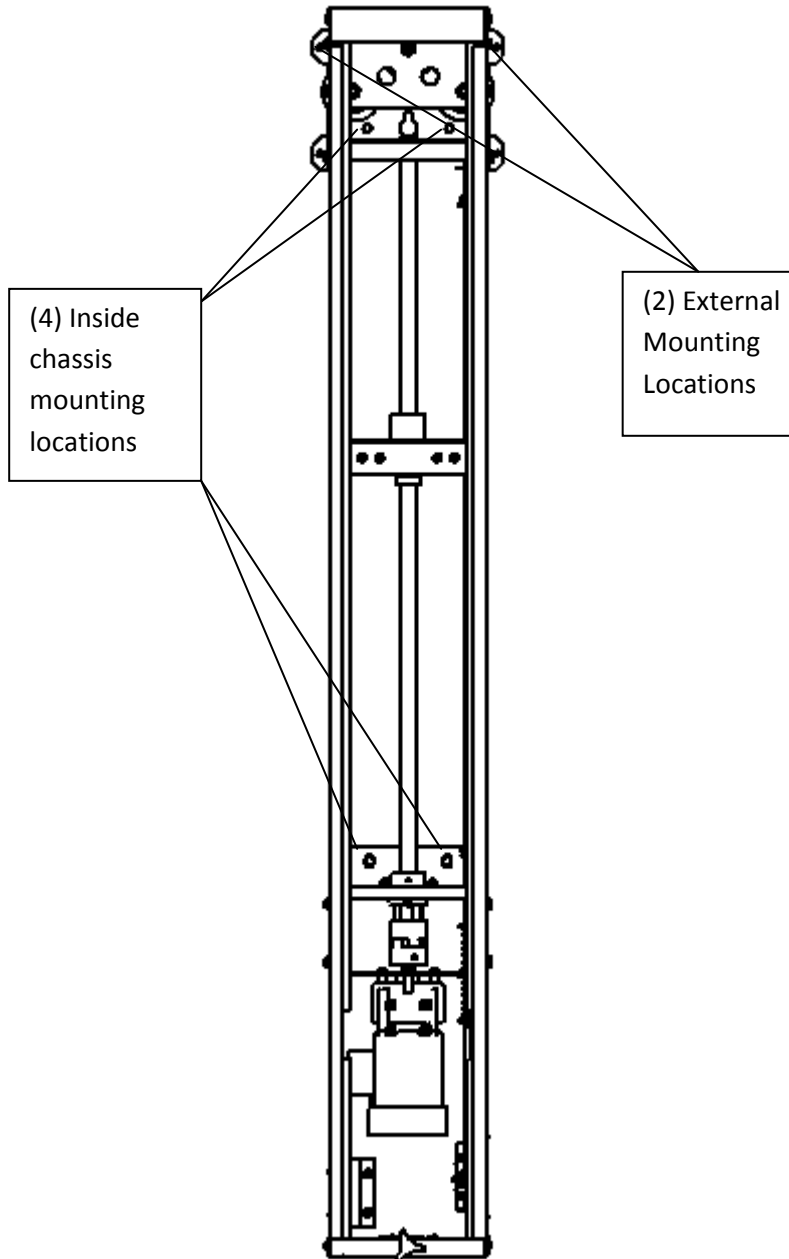

Figure 2
4. **DO NOT OPERATE MACHINE** while hanging on this bolt. Level machine and secure machine using **3/8" x 2"** Lag bolts (supplied) in the (6) mounting locations. **(Figure 2)**